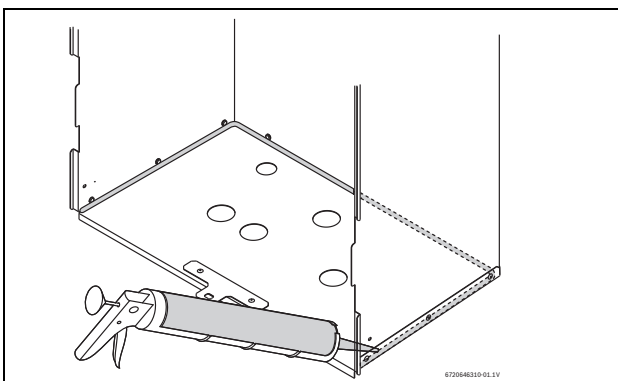

Fig. 7 Silicone inside the recess box
- ▶ Carefully, place silicone inside of the recess box, on the bottom side and rear edges and on top of the rivets, see Fig. 7.
- Secure recess box to wall studs using supplied lag screws. See Fig. 7. Be sure to use all of the supplied lag screws to secure the box.